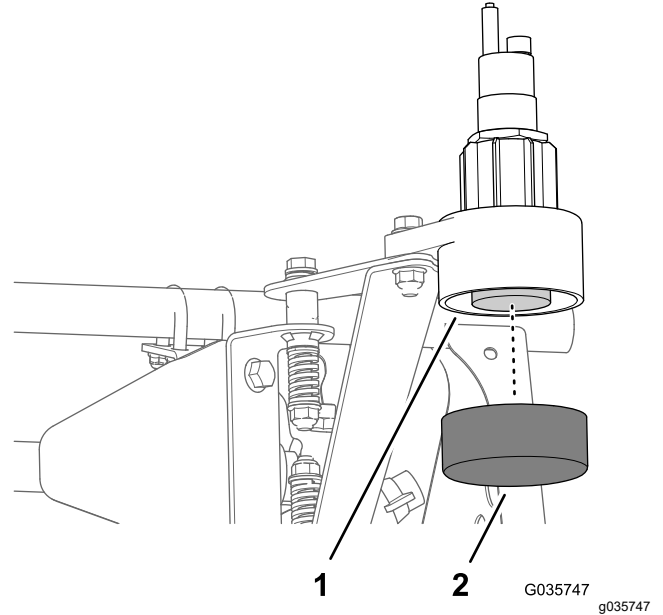

Figure 47
1. Install the cap onto the bottom of the lower housing (Figure 47).